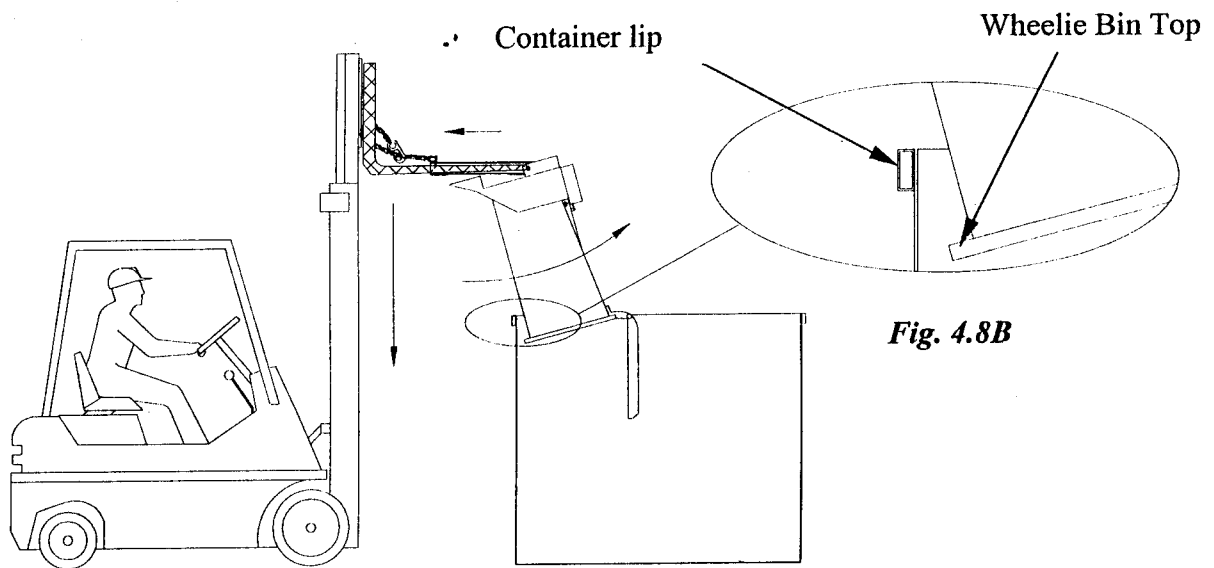
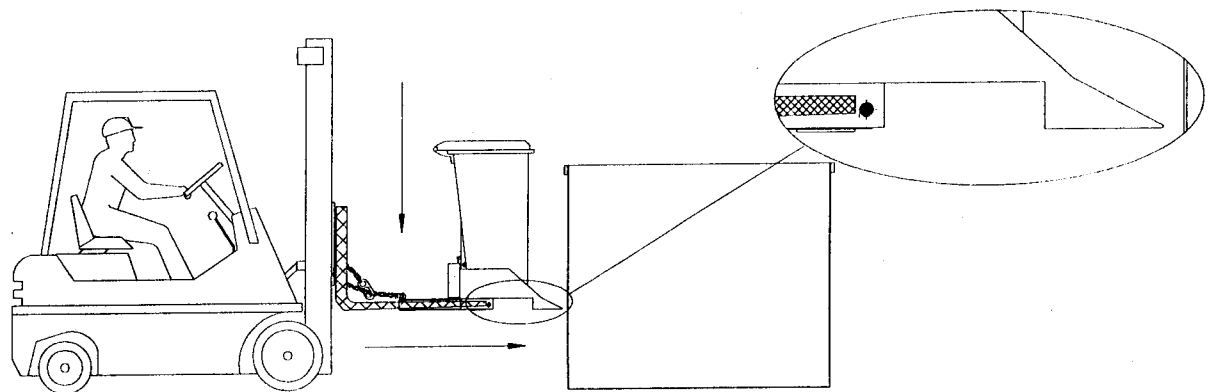

Fig. 4.8A
Fig. 4.9
- m) To return the Wheelie Bin/Wheelie Bin Tipper to the upright and rigid position, ensure the top of the Wheelie Bin is against the lip of the container as shown in *Fig. 4.8B*. Reverse the forklift to rotate the Wheelie Bin Tipper on the lip of the container as shown in *Fig. 4.8A*. When the Wheelie Bin Tipper commences to pivot, lower the carriage to complete the rotation cycle. Once the Wheelie Bin Tipper is in the original (upright) position, move the forklift forward until the carriage is against the rear of the Wheelie Bin Tipper and the forks are forward of the pivots as shown in *Fig. 4.9* below and in step f). The Wheelie Bin Tipper is now fixed upright and can be moved and lowered safely.